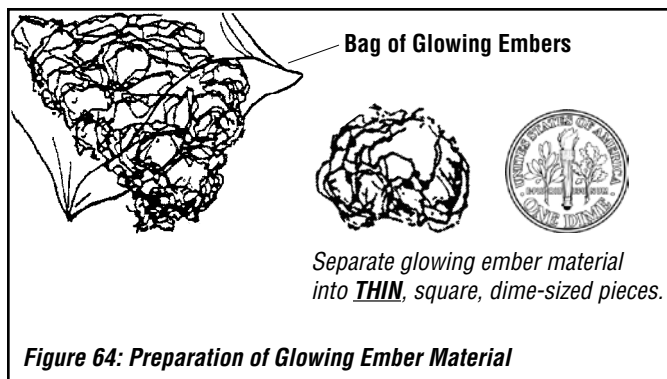

Figure 64: Preparation of Glowing Ember Material
- a) Separate some of the glowing ember material into pieces **about the size and thickness of a dime** (see Figure 64). Keep the pieces fluffed up, not matted.